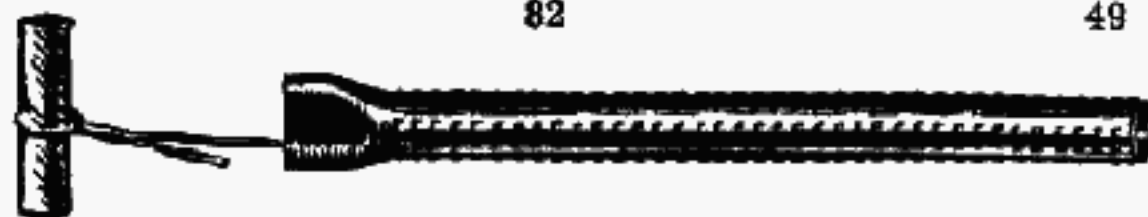
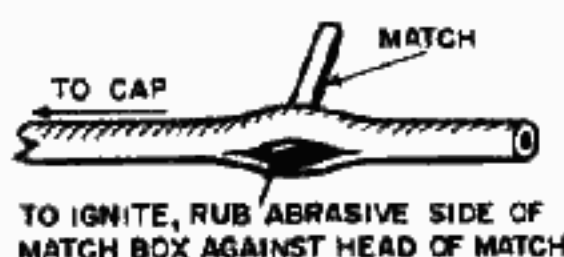

FIGURE 84.—Fuze lighter.
FIGURE 100.—Fuze lighter made with match.
e. Fuze lighter.—The fuze lighter (fig. 84) is used to light a time fuze. The open end is placed over the end of the time fuze where it is held in place by means of teeth inside the fuze lighter. These teeth permit the fuze to enter, but are inclined so as to bind the fuze and prevent its removal. It is unnecessary to crimp the lighter. Pulling the handle causes a flame inside the lighter which lights the fuze even in wet or windy weather, if the lighter and the powder train in the fuze have been kept dry. The fuze lighter should be set off by means of a steady pull (*not a jerk*). (Fig. 100 shows how to improvise a fuze lighter.)
the head of a match. Keep the match head in contact with the powder train, but allow a bit of the head to protrude. The abrasive side of a match box rubbed against the match will ignite the fuze (fig. 100).